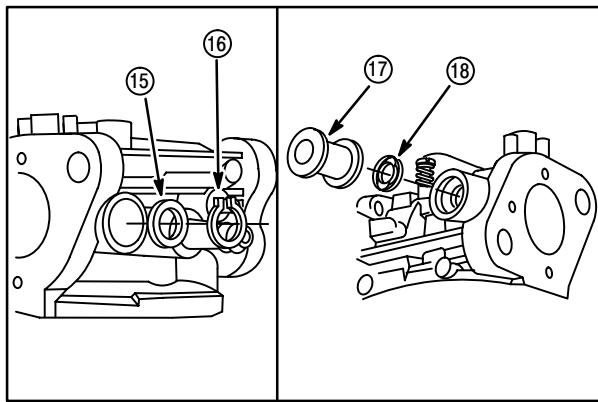

Fig. 30
11. Remove snap ring (16) and washer (15), **Fig. 30**.
12. Remove throttle shaft, collar (17) and seal (18).